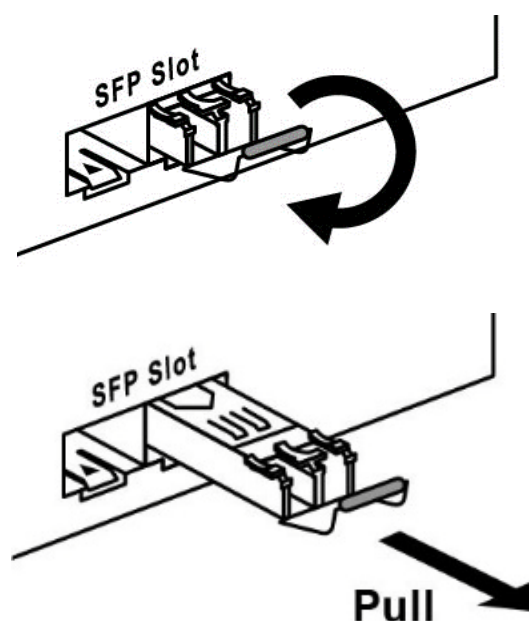

Figure 2.14: Pull Out from the SFP Module
Step 2. Push down the metal clasp and pull the transceiver out by the plastic part as shown below in Figure 2.14